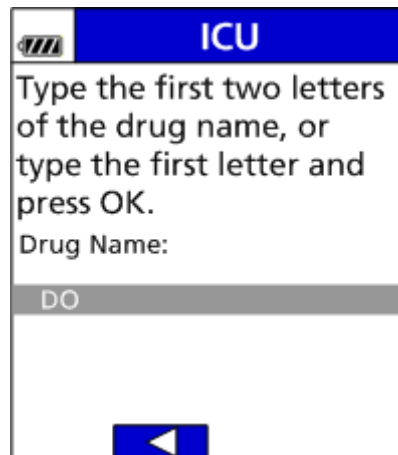

Figure 21. Type Drug's First Two Letters.
- Using the keypad, type the drug's first two letters and press OK. All drugs beginning with those two letters will appear. (See Figure 21.)